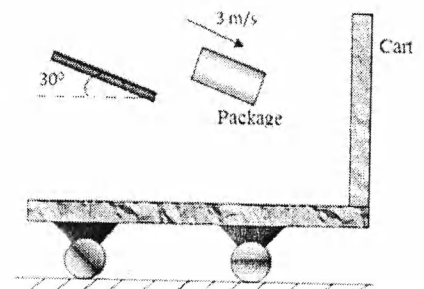

Figure 5
5. What do you mean by work energy principle? Illustrate the application of application of principle of work and energy .A 10 kg package drops from a chute into a 25 kg cart with a velocity of 3 m/s shown in Figure 5. Knowing that the cart is initially at rest and may roll freely, determine (a) the final velocity of the cart, (b) the impulse exerted by the cart on the package, (c) the fraction of the initial energy lost in the impact. [3+6]